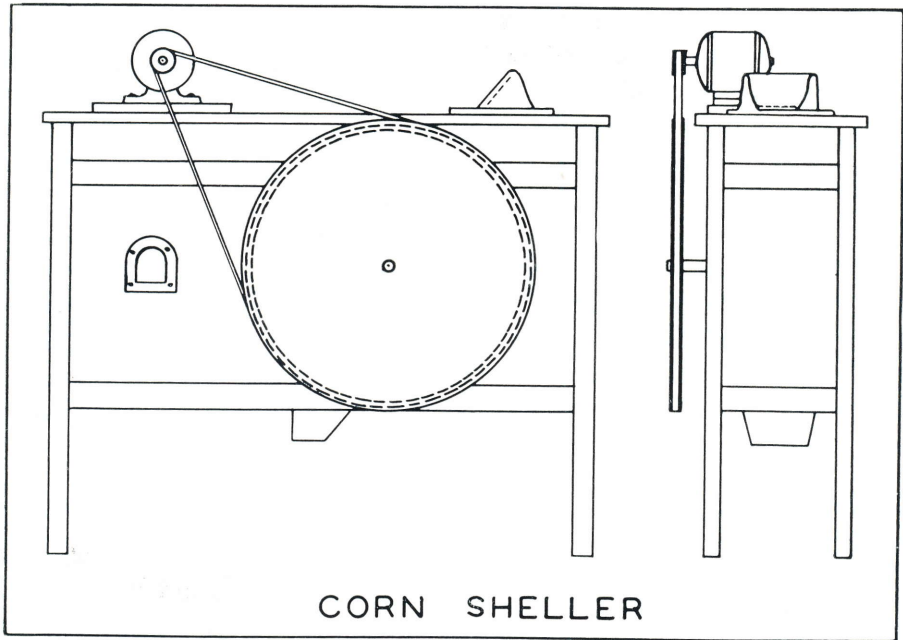

Fig. 15.
To transfer the motor to a corn sheller simply mount the board on top of the sheller as indicated in Fig. 15 and reverse the direction of rotation of the motor if necessary. A capacitor or repulsion induction (RI) motor should be used.